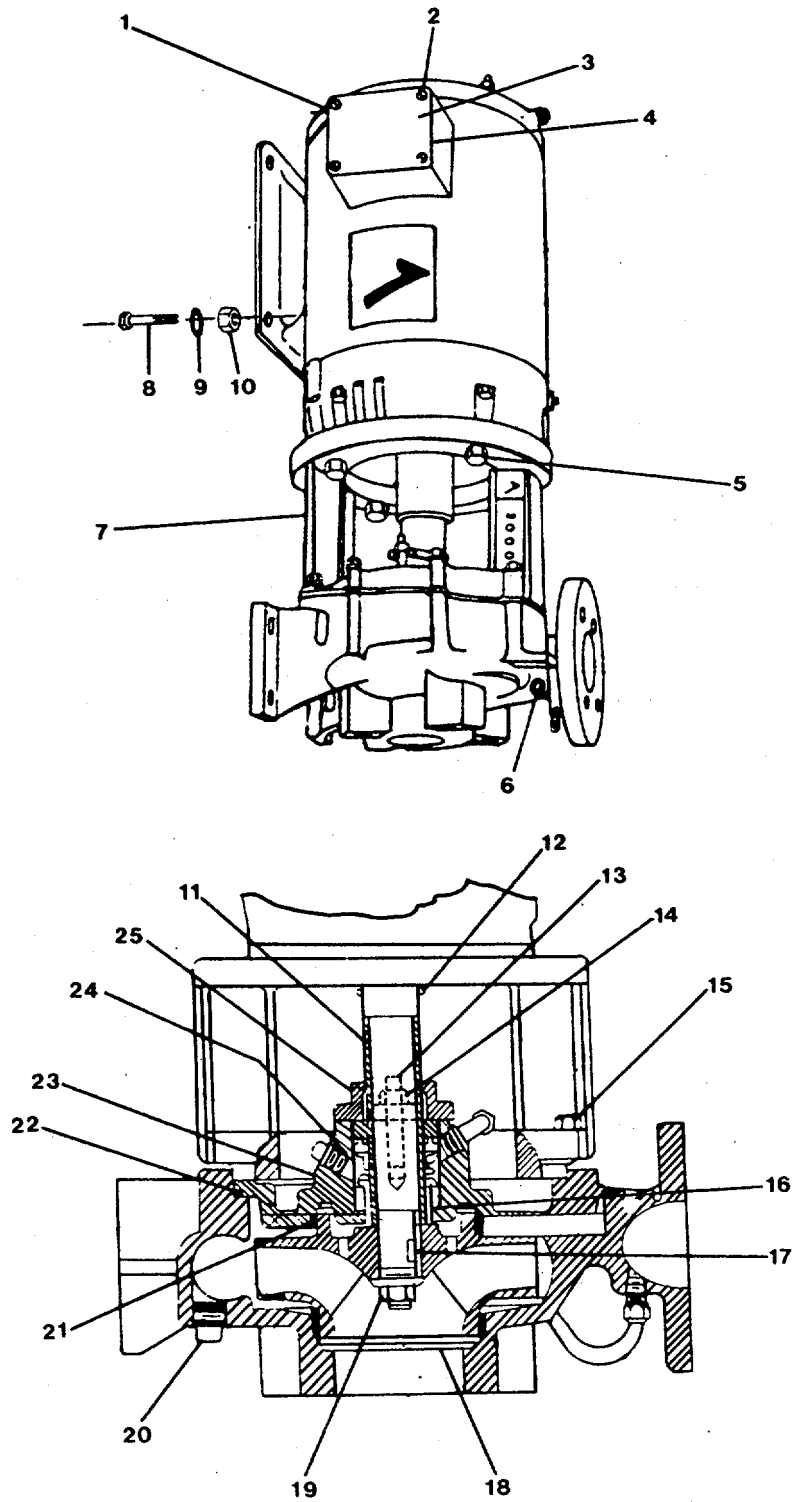

FIGURE 2-3. Bilge Ballast Pump Assembly.
- (4) Once the adapter is aligned, tighten the adapter machine bolts (6) to 150 ft-lbs torque.
- c. Install the deflector (12, FIGURE 2-3) and shaft sleeve gland (25) on the motor shaft. Install lubricating sealant between the shaft and shaft sleeve.
- d. Install the mechanical seal (24) using the following tasks.
- (1) Install the rotating and stationary elements of the seal (24), with wearing surfaces facing each other, onto the shaft sleeve (11).
- e. Install seal gland (25, FIGURE 2-3) (flat side toward stuffing box) on the stuffing box using the gland stud (13) and nuts (14). Secure nuts (14) evenly until the gland (25) is approximately 118 in. from the stuffing box.
- f. Slide the stuffing box cover (23) onto motor shaft and install cover machine bolts (15), securing cover to motor adapter.